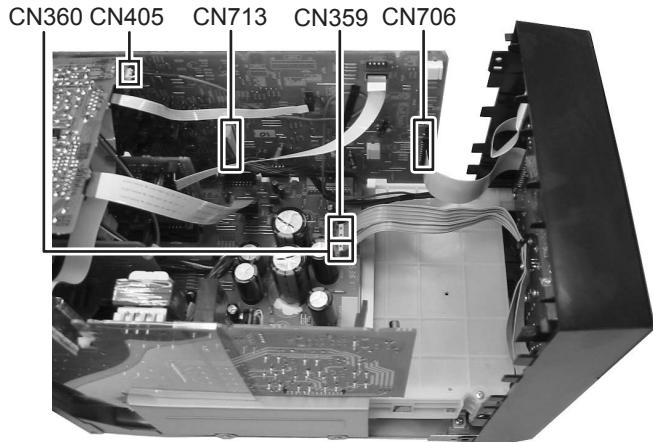

Fig.4
(Fig.4 to 6)
- (1) Disconnect the card wire from the connector CN359 and CN360 on the regulator board. (See the Fig.4)
- (2) Disconnect the card wire from the connector CN760 on the main board. (See Fig.4)
- (3) Disconnect the connector wire from the connector CN713 on the main board. (See Fig.4)
- (4) Disconnect the connector wire from the connector CN405 on the video board. (See Fig.4)